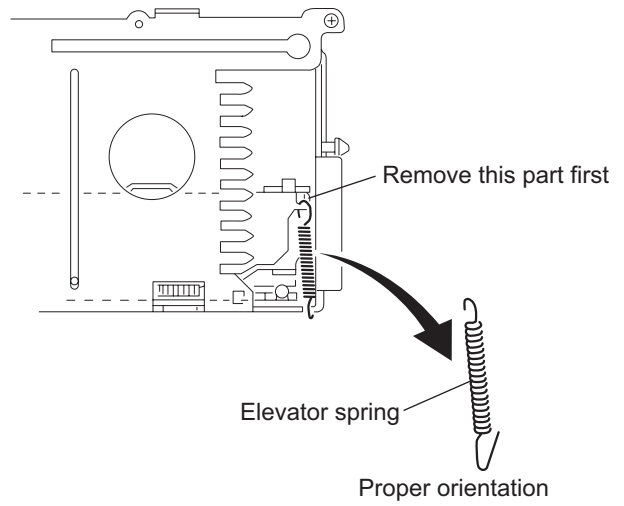

Fig.19
2.4.7 Remove the lifter unit (See fig.19,20)